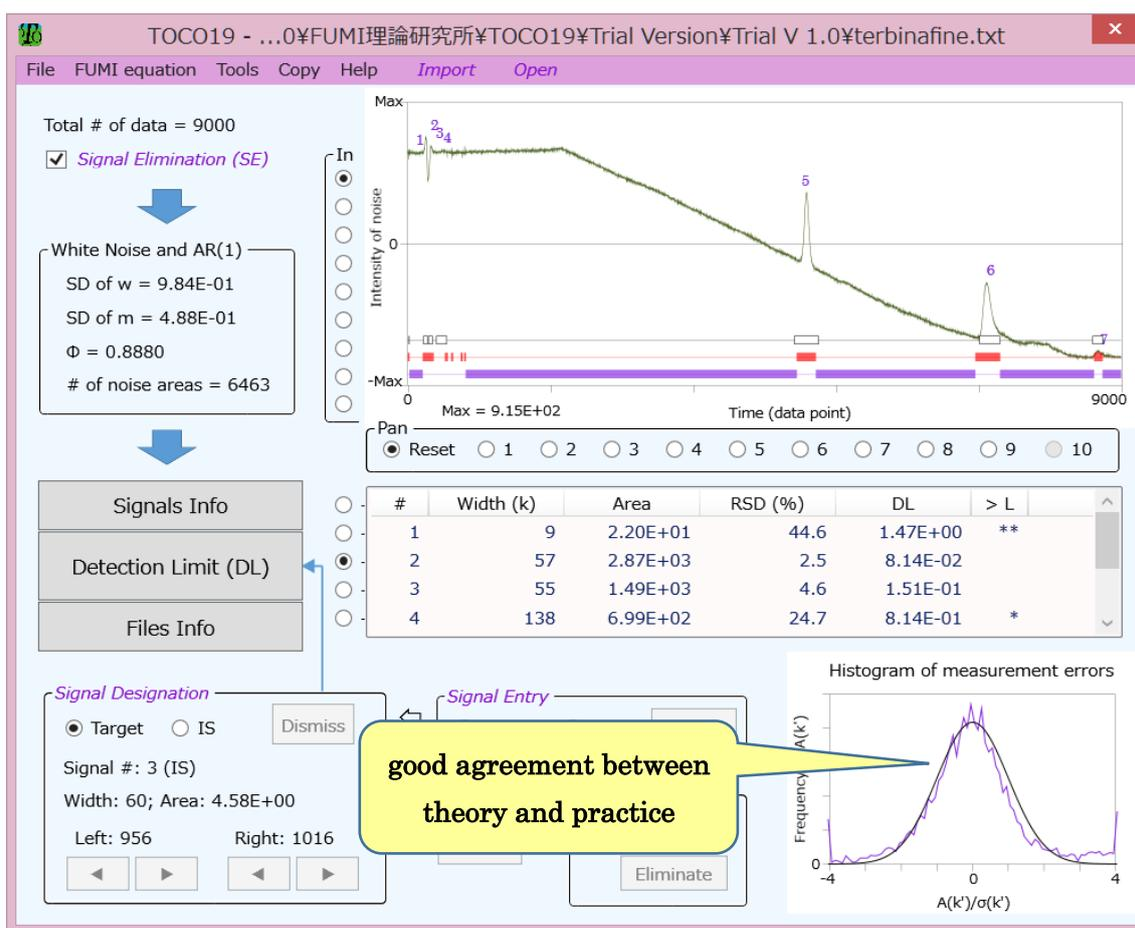

Figure 14 --- An example of gradient elution analyses
In gradient elution of HPLC, baselines (backgrounds) of chromatograms are not usually horizontal, but oblique. However, TOCO19 can cope with these cases. As is shown in Fig. 14, if the observed histogram (zigzag line) of areas created by the background noise is in good agreement with the theoretical line (smooth line) of a normal distribution, TOCO19 analyses can be considered successful (for details, see 2.25).
2. press the Files Info button on the left side of the main window (see Fig. 14);